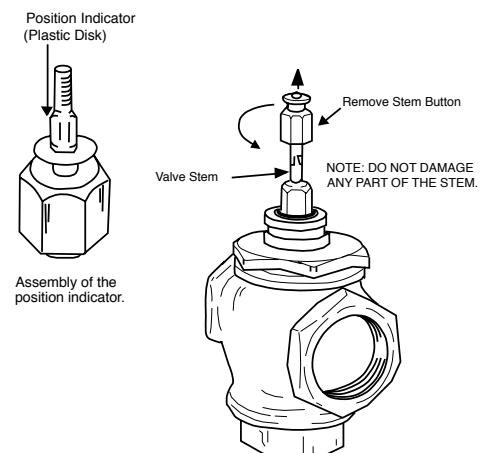

FIG. 3 – PREPARATION FOR VALVE ASSEMBLY
3. Remove the stem button (Fig. 3) from the valve stem.
4. (Optional) Slide the position indicator (plastic disk or rubber O-ring) over the valve stem (Fig. 3). Indicator will self-align to the marking on the yoke after complete operating cycle.